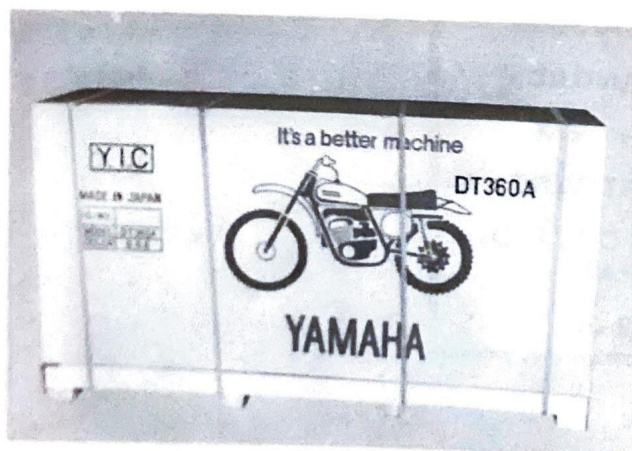

Fig. 2
1. The DT250A/360A is put in a cardboard crate. To unpack, cut vinyl bands wound around the cardboard crate using a cutter, and then take it out. (Fig 2)